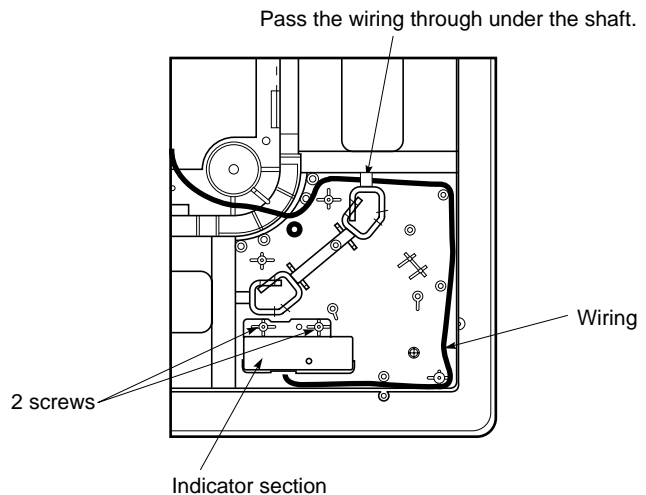

Fig. 7-6
- (1) Remove the ceiling panel.
- (2) Remove the corner cover behind the mark section. (3 screws)
- (3) Remove the mark section inside the ceiling panel. (2 screws)
- (4) Install the indicator section in the location where the mark section was attached. (2 screws)
- (5) Form the wire to match the panel ribs as in the Fig. 7-6.
- (6) Install the corner cover. (Restrain the wire with the corner cover.)